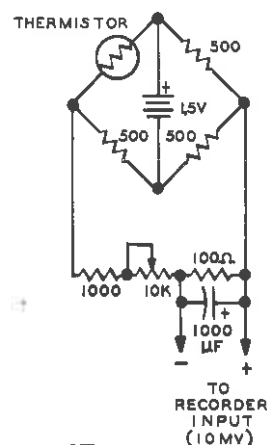

Figure 17
The bridge circuit shown in Figure 17 is designed to convert temperature variations for the Recorder. Temperature changes vary the resistance of a thermistor in one leg of a bridge. The varying resistance is compared to a fixed resistance and recorded. Many other circuit values are practical to use.
1. Construct the circuit shown in Figure 17.